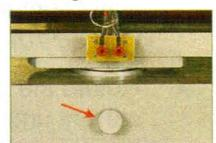

Figure 11c
- Release the magnet yoke arresting screw on the side of the magnet power supply (Figure 11c) and swing the entire magnet assembly through 90° so that the light from the lamp is directed along the optical bench.